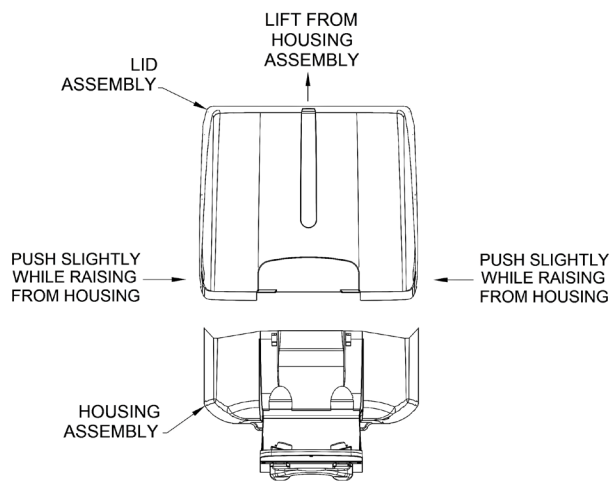

FIGURE 15
- A. To inspect the interior of the unit, remove the Lid Assembly. A slight pressure must be applied to both sides of the Lid to remove This will disengage the Locking Tab inside lid assembly. While pressing, lift upward and cover will come off (Ref Figure 15).